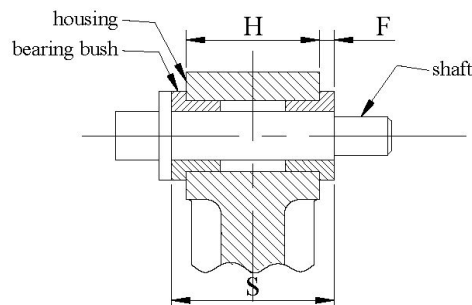

Figure 1
1. The shaft assembly of the intermediate transmission unit shown in Fig .1 is required to have an axial freedom in between 0.06 and 0.18 mm when assembled in the working condition. Using the nominal sizes specified for shaft, housing, and bearing bushes shown in Fig .2. State the appropriate limits to achieve the required axial freedom.